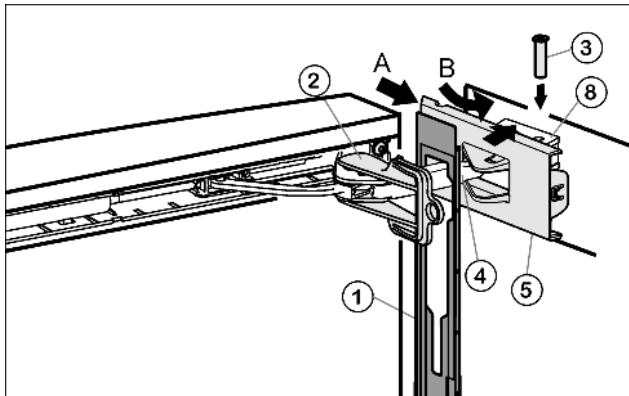

Fig. 18
- ▶ Attach the faceplate Fig. 18 (1) to the soft stop bracket Fig. 18 (4) so that the catches face inwards and the front faces the appliance.
- ▶ Slide on the cover Fig. 18 (5) from the outside (A) and swivel it over the bearing element Fig. 18 (8) (B).
- ▶ Attach the cover Fig. 18 (5) and engage it as far as the first detent.
- ▶ Draw the soft stop bracket Fig. 18 (4) towards the bearing element and insert the pin Fig. 18 (3) from above so that the square is seated in the depression.
- ▶ Now completely snap the cover Fig. 18 (5) onto the bearing element Fig. 18 (8).
- ▶ Twist the safety lock Fig. 18 (2) for removal.
- ▶ Snap the faceplate Fig. 18 (1) onto the door.